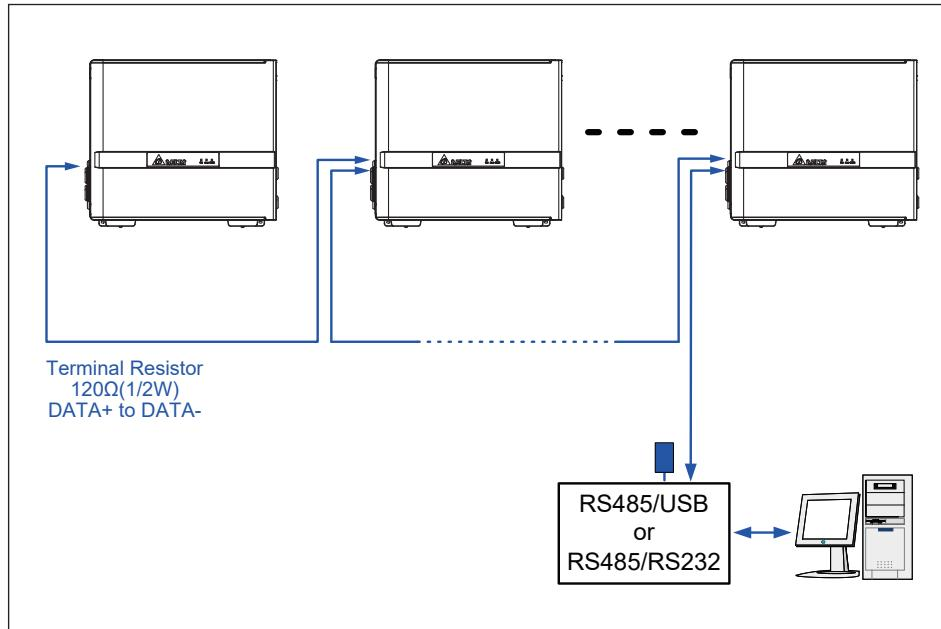

Figure 3-23: Multiinverter connection illustration
A 120ohm bus termination resistor and associated control switch are located on the communication board (**Figure 3-23**). **Table 3-2** shows the switch function. Different RS-485 connection scenarios require different set up for the 120ohm bus termination resistor.
- When several inverters are cascaded (i.e., "daisy-chained") only the last inverter in the chain must have its bus termination resistor switched ON (**Figure 3-23**).